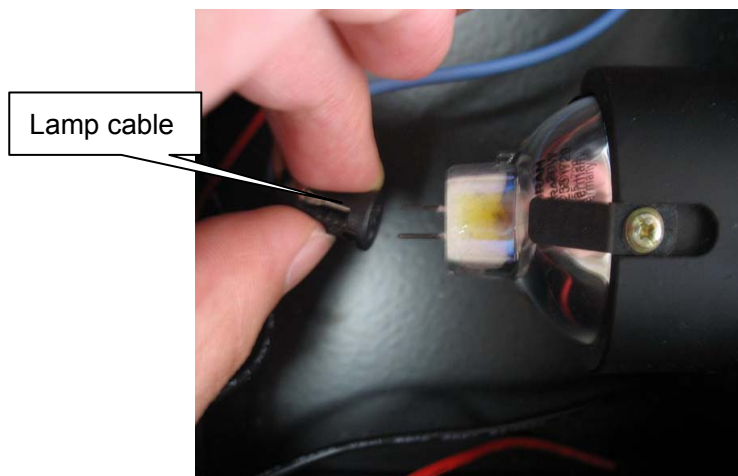

Figure 3-43
- 2、 Take off the lamp cable to prevent the lamp from broken by misoperation, as shown in figure 3-43.